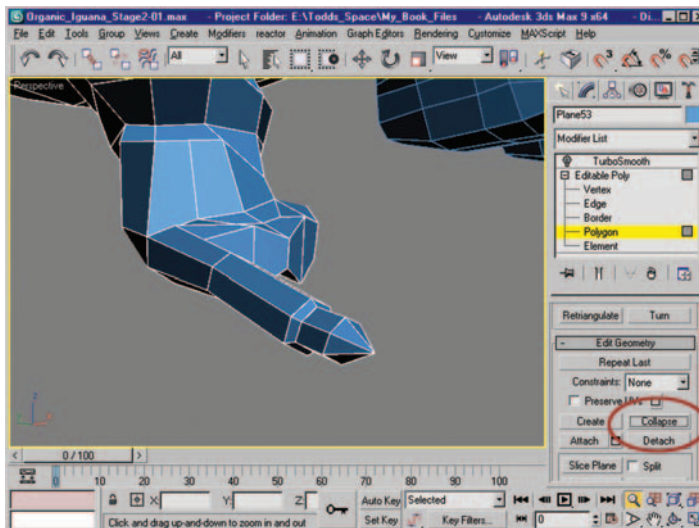

Figure 9.65 Polygon selection after using Collapse.
27. With the same two polygons still selected, use Collapse to create the pointy tip seen in Figure 9.65.